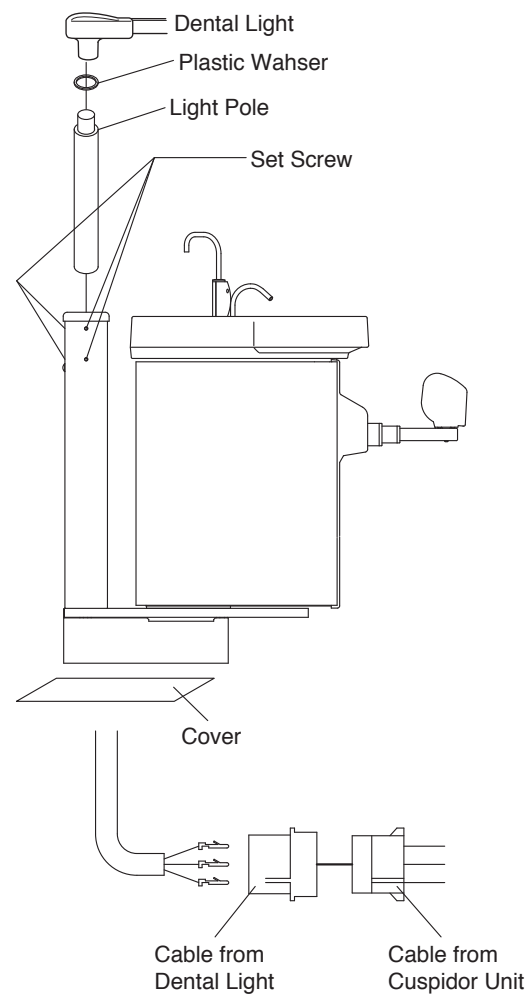

Fig.2-6 Install Dental Light
3. INSTALL DENTAL LIGHT (Fig.2-6)